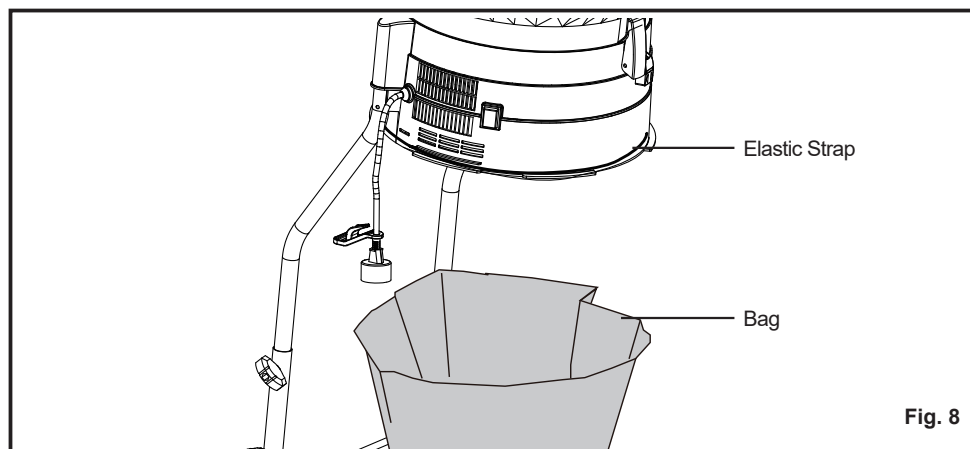

Fig. 8
- Use the elastic strap located at the base of the housing to secure the bag in place (Fig. 8).